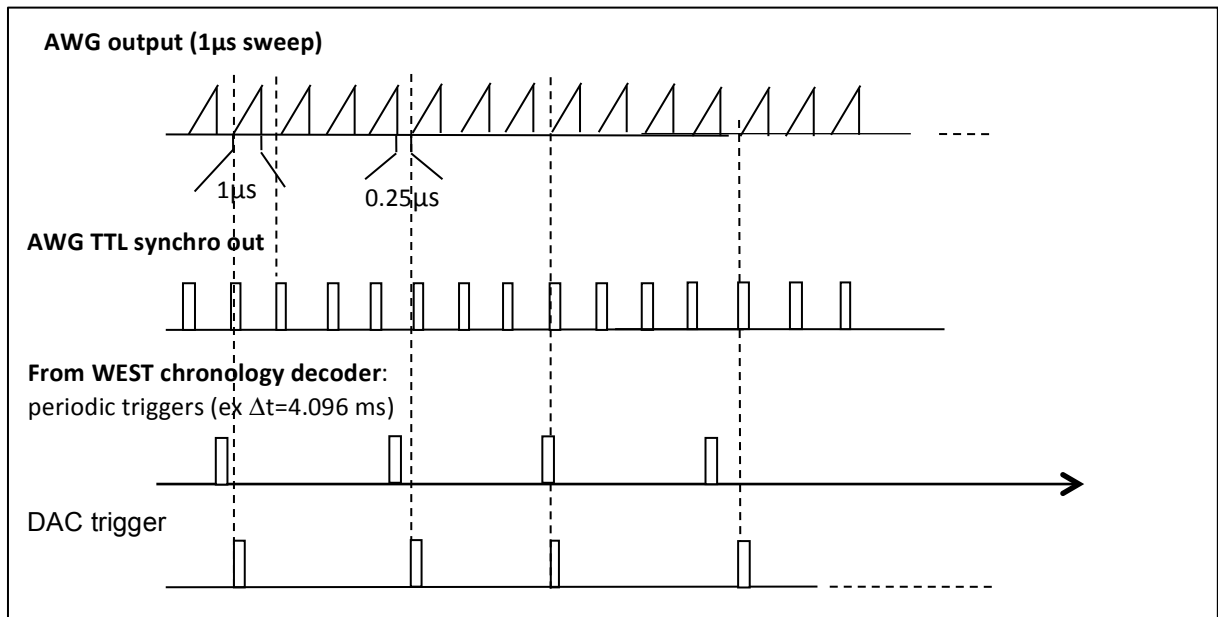

Figure 2: trigger sequence in the continuous mode
- **In continuous mode**, a profile is recorded at regular time intervals. After the reception of the trigger code, the chronology decoder installed in the reflectometer cubicle emits a hard trigger. This hard trigger enables the next TTL emitted by the AWG to trigger a profile acquisition (see Figure 2). The acquisition system store the pulse time of each profile initial point to date the profile.